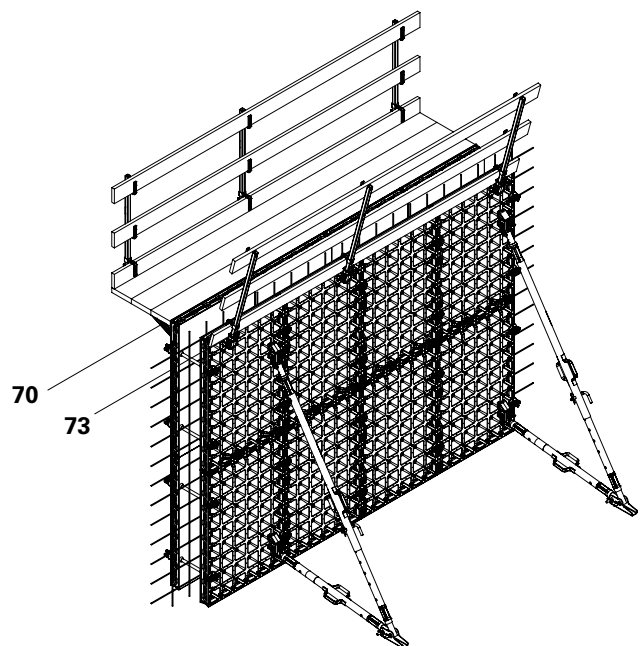

Fig. B1.08
1. Install the DUO 70 scaffold bracket (70) and DUO front post holders (73) (Fig. B1.08), see section B4.
From a safe and secure working scaffold (Fig. B1.08)